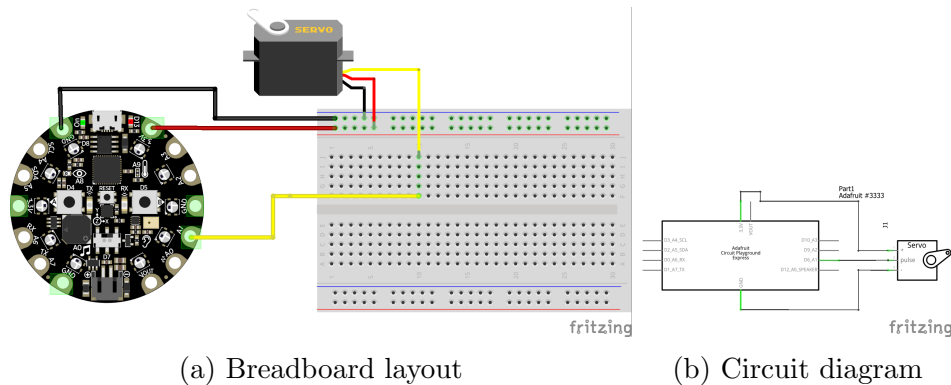

Figure 6: Diagrams for attaching external Servo to CPX
2. Connect the servo to the CPX as shown in Figure 6. With so few parts, this can even be done without a breadboard.